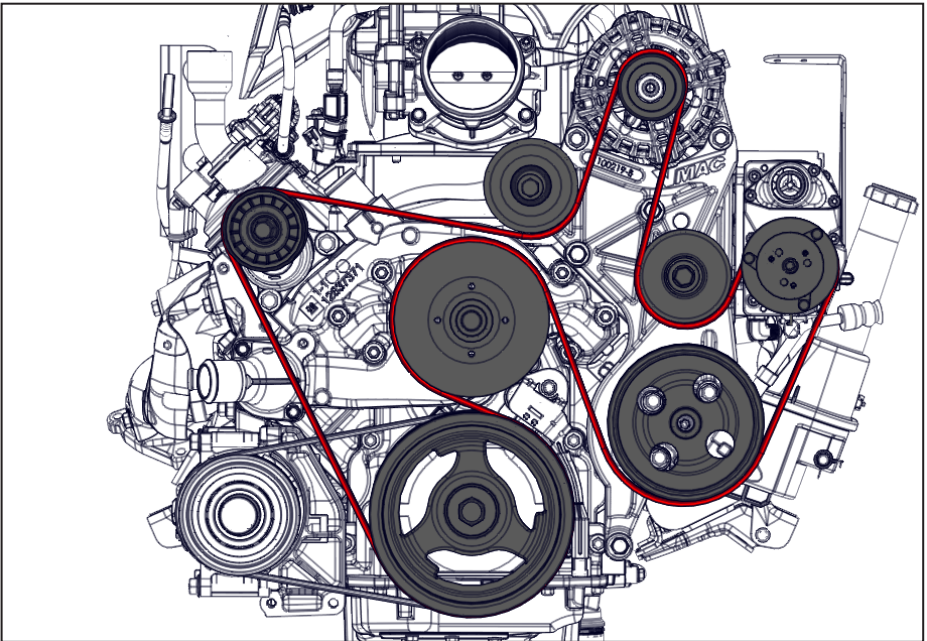

Figure 19 — FEAD belt routing
- Install the VMAC supplied FEAD belt, ensuring the belt is properly seated on all of the pulleys (Figure 19).